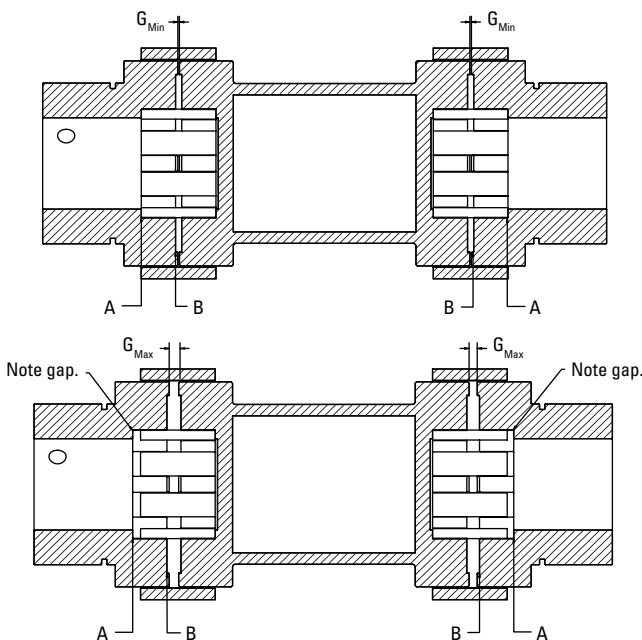

Figure 2 Proper shaft-to-hub engagement.
- 4)** Install the hubs. They should be mounted so the end of the shaft is flush with surface "A" as shown in Figure 2.
- 5)** Install the spacer body and inserts. Slide all three components (spacer body and two inserts) tight to one side and check the gap from the insert face to hub flange face shown as surface "A" in fig. 2. This should not exceed $[(2 \times G_{Max}) - (2 \times G_{Min})]$ using the appropriate minimum hub gap (G_{Min}) and the maximum hub gap (G_{Max}) from table 2. If this gap exceeds your calculation, adjust one or both hubs to set within specs, paying attention not to have the shaft end extend past surface "B" as shown in Figure 2.